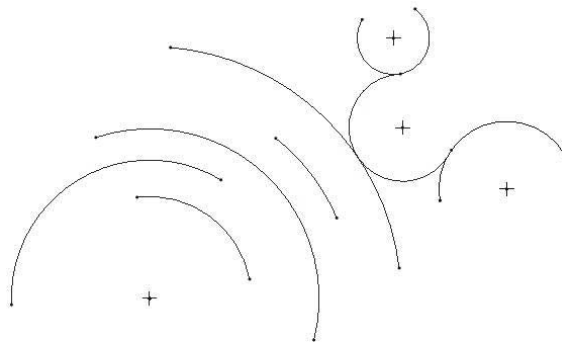

Figure 3-35 Arcs
Step 31: Use  to create an arc, then use  to create four concentric arcs as shown on the left in Figure 3-35.
Step 32: Use  to create the upper and lower right most arcs in Figure 3-35.
Step 33: Use  to draw the arc that is tangent to three different arcs as shown in Figure 3-35.